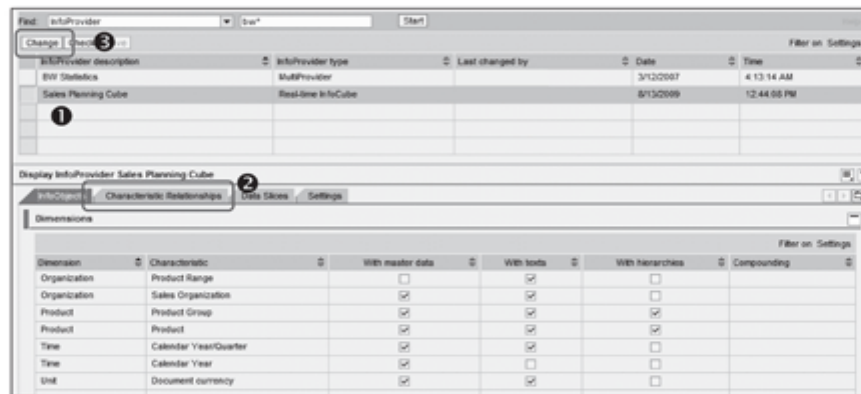

Figure 12.16 Go to Characteristic Relationships Tab
3. Select the InfoProvider from the list. In this case, we select the Sales Planning Cube (BW_PLAN), which we created earlier (❶ of Figure 12.16). As soon as you select the InfoProvider, the definition of the InfoProvider is displayed on the screen (see Figure 12.16).
4. The other three tabs that are displayed are CHARACTERISTIC RELATIONSHIPS, DATA SLICES, and SETTINGS. Click on the CHARACTERISTIC RELATIONSHIPS tab to create a characteristic relationship (❷ of Figure 12.16).